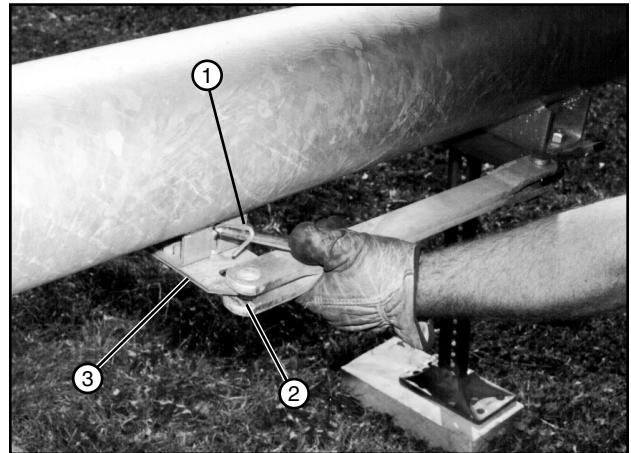

Figure 79-1 1. Carrier Spring 2. Tow Link Bar 3. Tow Link Carrier
1. Lift the carrier spring and release the tow link bar from the tow link carrier. See figure 79-1.